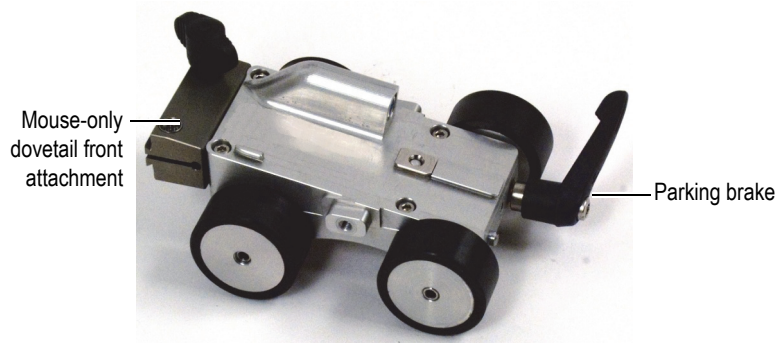

Figure 2-26 Mouse-dedicated dovetail front attachment and parking brake
6. Use a hexagonal key or the supplied universal tool to install the mouse-dedicated dovetail attachment for the mouse scanner (see Figure 2-26 on page 57).